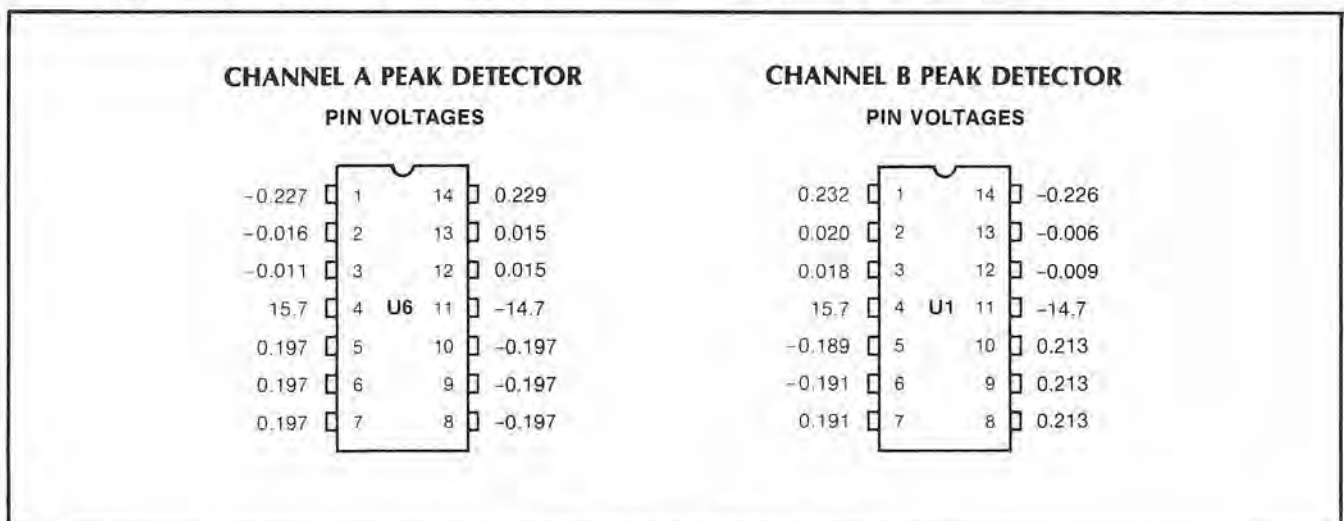

Figure 8-71. A3U6 and A3U1 Pin Voltages
d. Verify the APD line (channel A positive peak detector output) and AND line (channel A negative peak detector output), reflect the true peaks of signal, i.e., about $+230 \text{ mV} \pm 10 \text{ mV}$, and $-230 \text{ mV} \pm 10 \text{ mV}$, respectively. If this voltage is not present, check the voltages of A3U6 per Figure 8-71 (in volts).